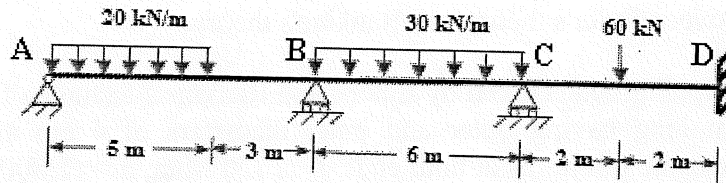

Fig. 1
- 12 Analyse the continuous beam shown in the fig. 1 by using Force method and draw the shear force and bending moment diagrams.